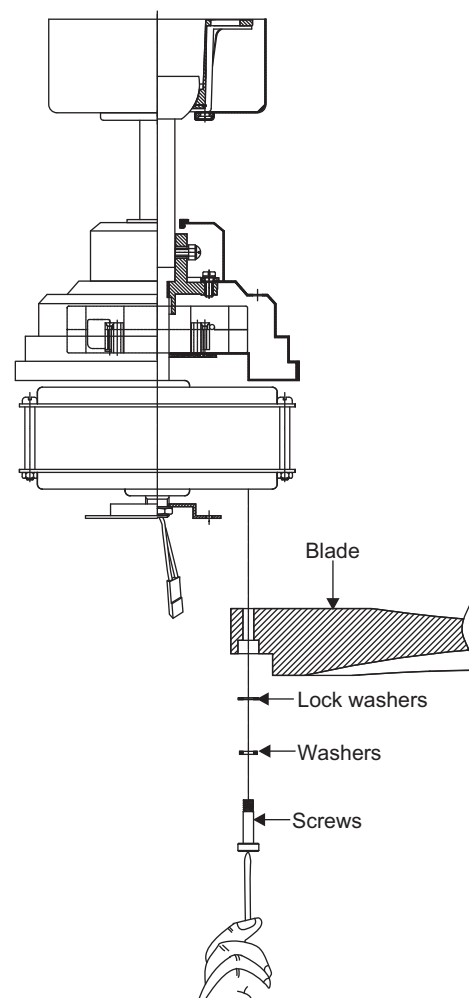

Figure 11
Step 1. Align the holes from the blade to the holes from the motor, and secure the blade in place with screws, washers and lock washers provided. (Fig. 11)